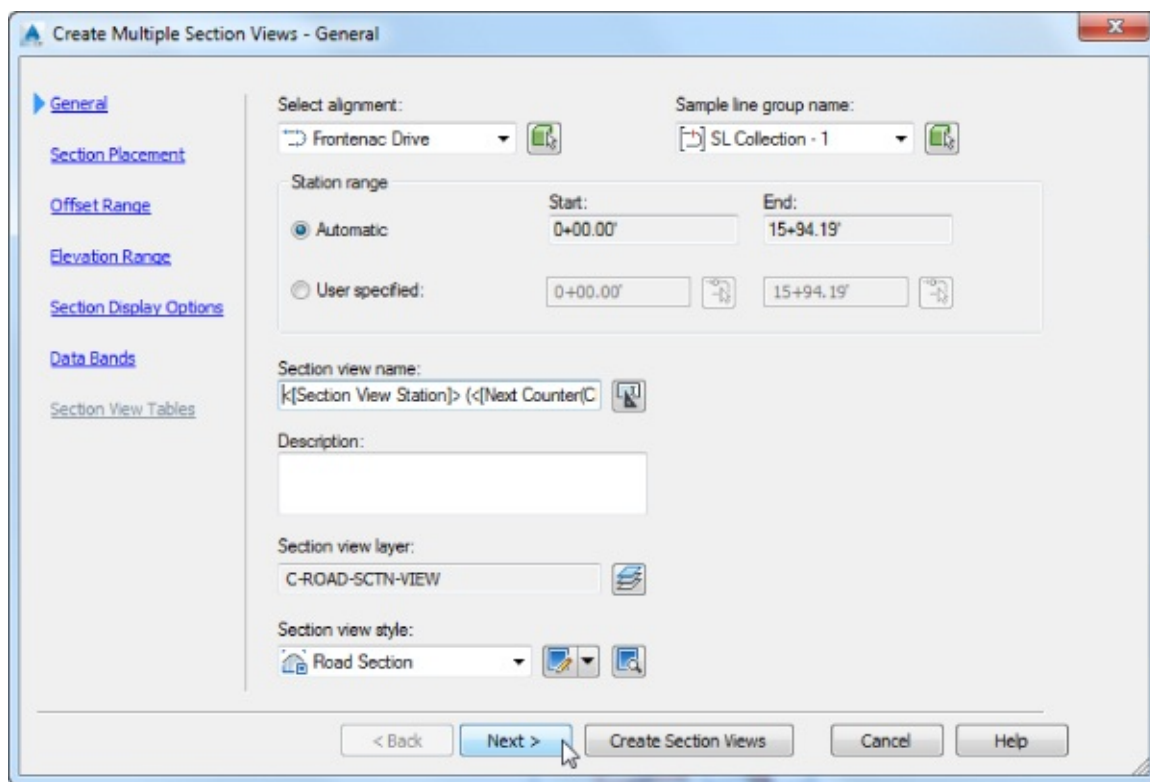

Figure 15.21 Create Multiple Section Views – General wizard page
2. From the Home tab ► Profile & Section Views panel, choose Section Views ► Create Multiple Views to display the Create Multiple Section Views Wizard, shown in Figure 15.21.